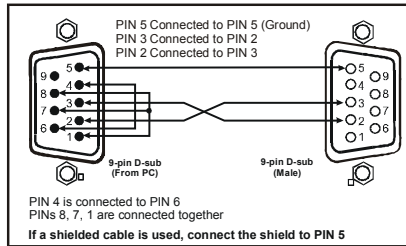

Figure 16: Connecting a PC without using a Null-Modem Adapter
- Connect the RS-232 9-pin D-sub port on your PC to the RS-232 9-pin D-sub rear panel port on the master **RC-108/RC-116** unit, as Figure 16 illustrates